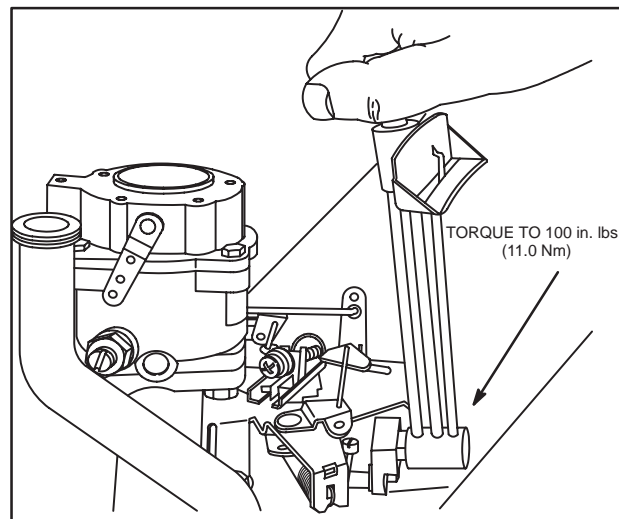

Fig. 27 – Static Governor Adjustment
2. Rotate governor shaft counter-clockwise as far it will go, Fig. 27.